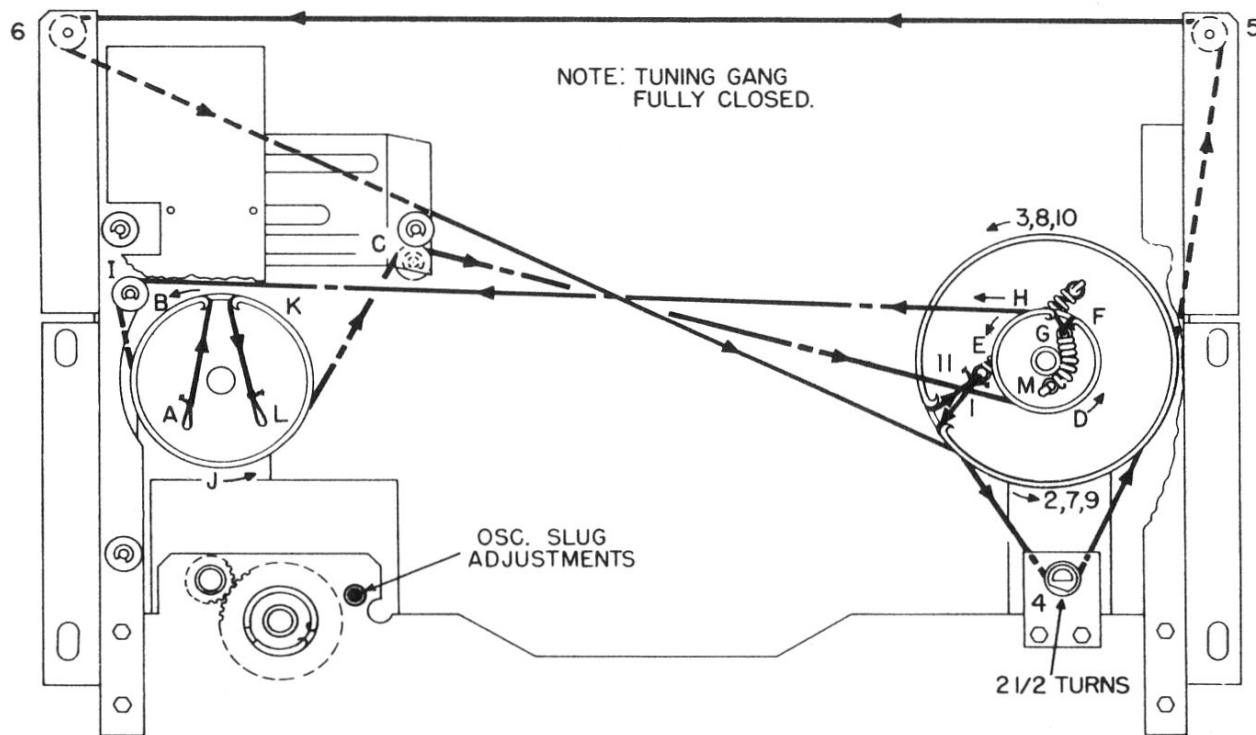

Fig. 11. Dial Pointer and Tuning Gang Stringing Diagram
- The local oscillator frequency is higher than the signal frequency on bands 1, 7, & LW (8). The local oscillator is lower than the signal frequency on all other bands.
- To adjust the oscillator slugs on the TW-1000 and TW-2000, it will be necessary to first remove the baffle board and dial assemblies by following Steps (a) thru (e) under "Removing Tuner from Chassis". The oscillator slugs are accessible thru the opening at the front of the tuner (see Fig. 11).